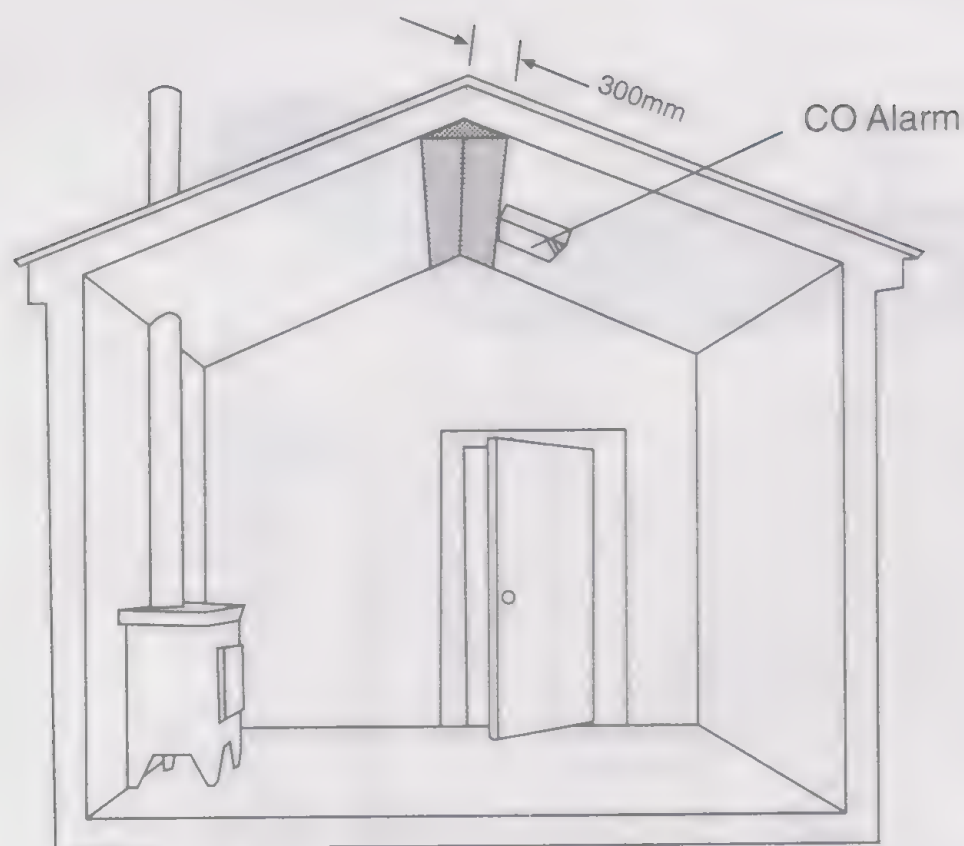

Figure 3. Location in rooms with sloped ceilings, the CO alarm should be located at the high side of the room
- In rooms with sloped ceilings, the CO alarm should be located at the high side of the room (see fig 3).